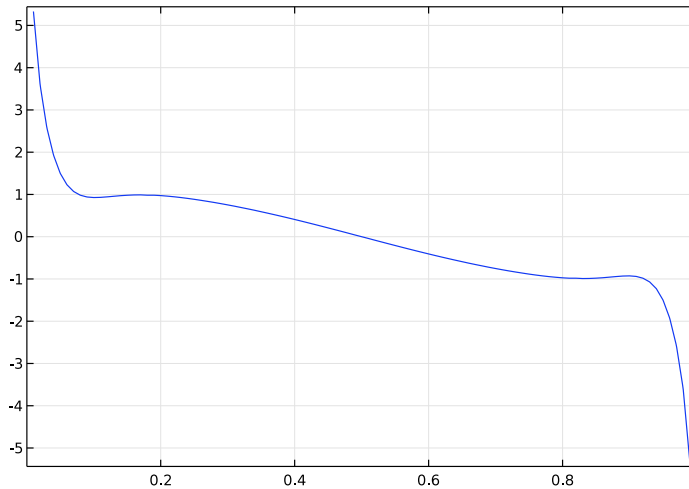
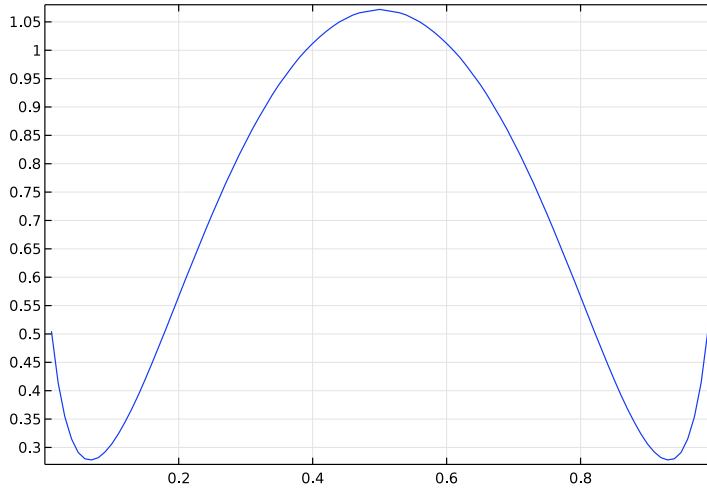

Figure 1: The function $G_1(s)$ used to define the wall-induced lift force.
Figure 2: The function $G_2(s)$ used to define the wall-induced lift force.
- G_1 and G_2 are dimensionless functions of the normalized wall distance, given in Ref. 2. These functions are plotted in Figure 1 and Figure 2.